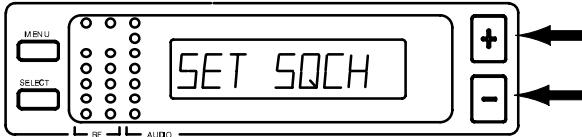

FIGURE 26
2. Press either the + or – button to reach the “SET SQCH” display, shown in Figure 26.